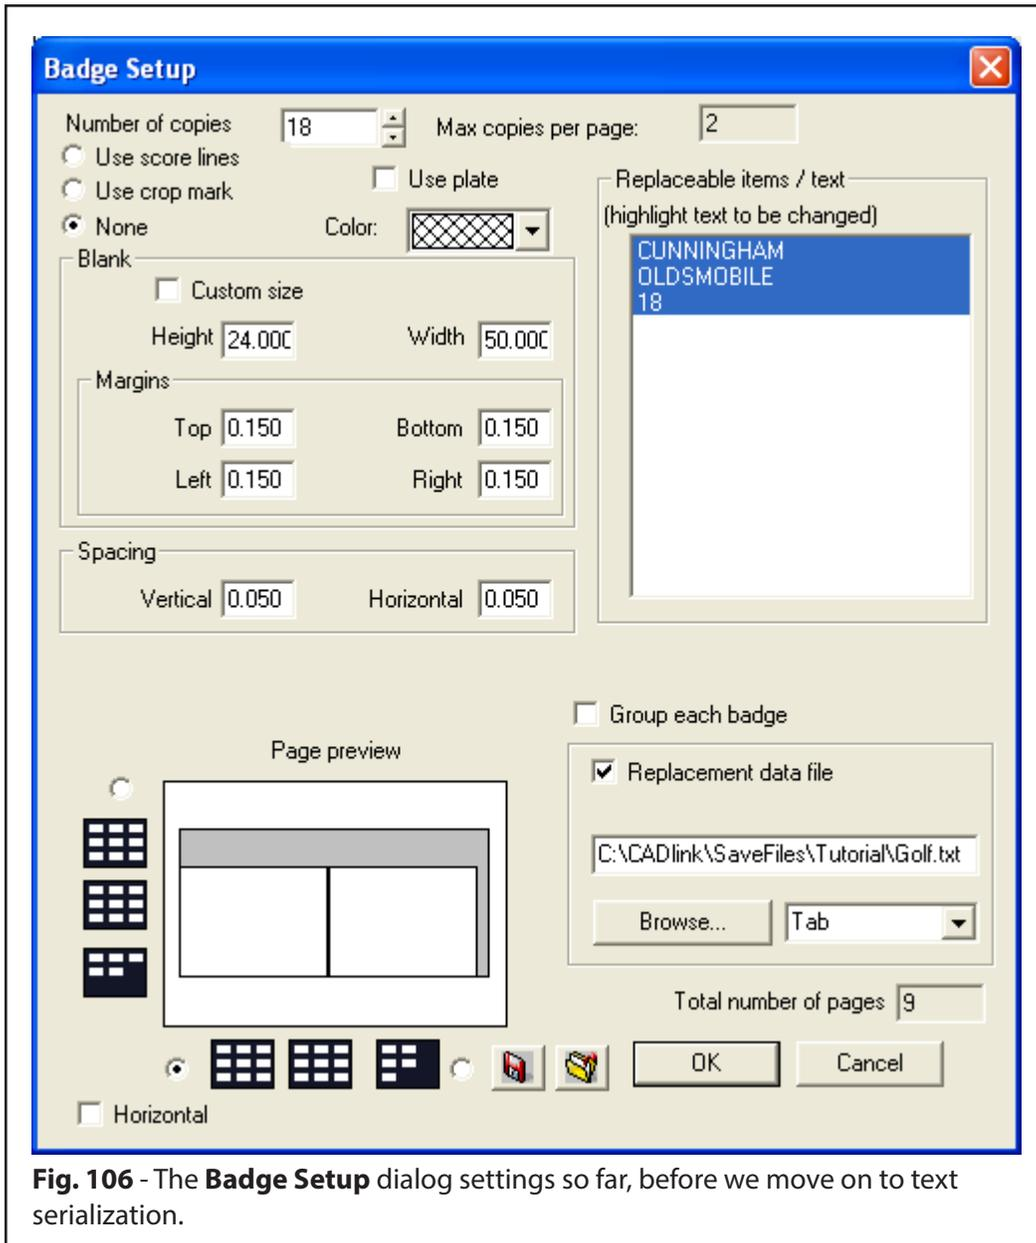

Fig. 106 - The **Badge Setup** dialog settings so far, before we move on to text serialization.
9. The **Badge Setup** dialog should appear as in Fig. 106.